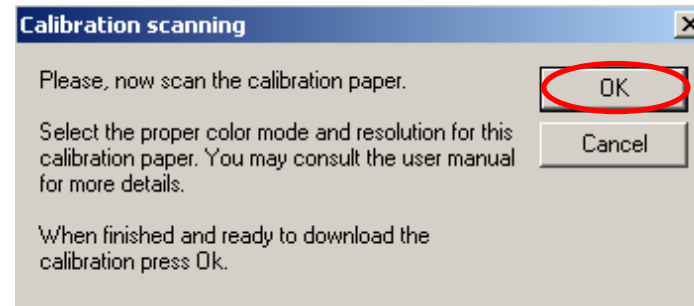

Fig 5
7. After the memory has been formatted the **Calibration scanning** dialog window will appear (Fig 5). Please **disconnect** the DocuPen from the USB cable and position it on top of the **Roller Calibration** sheet. Please scan the sheet in **B&W mode** and **high resolution**.
8. The DocuPen will now save the Calibration image into memory. After the image is saved, please attach the DocuPen to the USB cable. Now press the **Power ON** button on the DocuPen and click the **OK** button within the **Calibration scanning** dialog window (Fig 5).